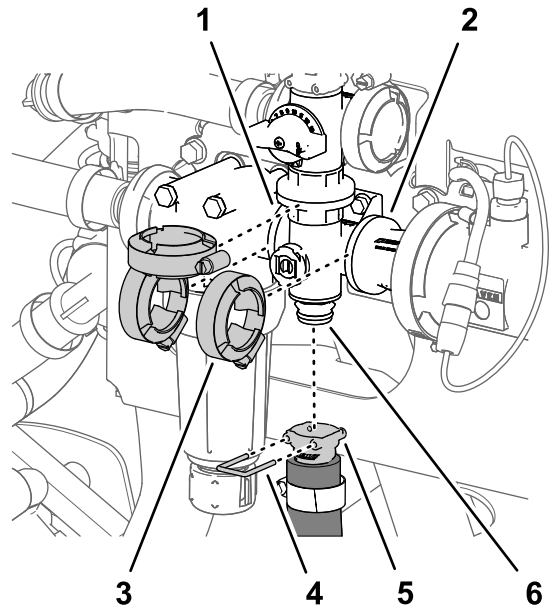

Figure 104
- Remove the quick connect pin that secures the quick-connect coupler for the agitation hose to the manifold for the agitation valve (Figure 104).
- Remove the 3 flange clamps that secure the agitation-valve manifold to the flanges of the pressure-filter head and the coupling adapter (Figure 104).